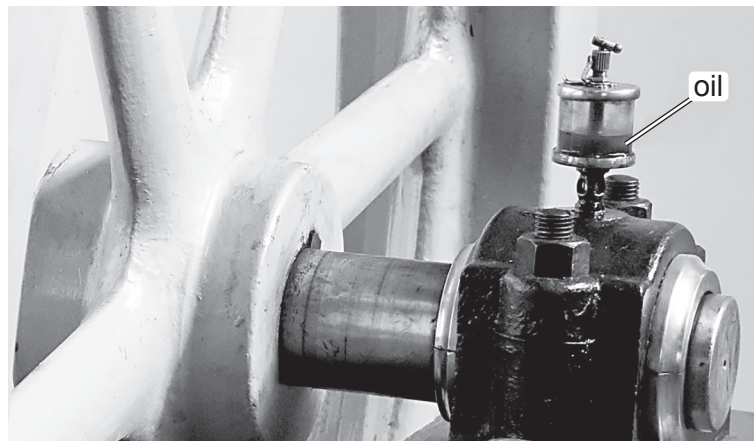

Fig. 6.1
- 6 Fig. 6.1 shows a method of providing lubrication to a mechanism.
- (a) Give **two** benefits of providing lubrication by the method shown in Fig. 6.1.